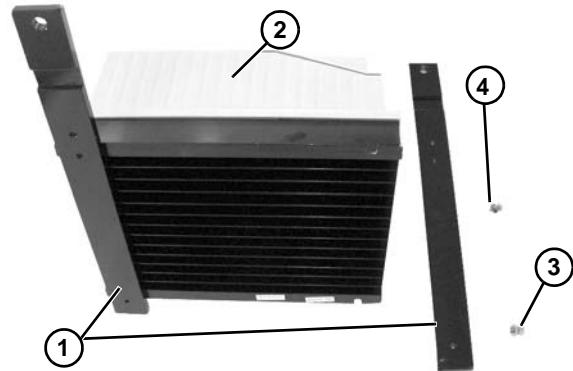

Figure 20
1. Attach mounting bars (**Figure 20, item 1**) to controller (**Figure 20, item 2**) with M5 x 8 mm screws (**Figure 20, item 3**) and M5 washers (**Figure 20, item 4**).